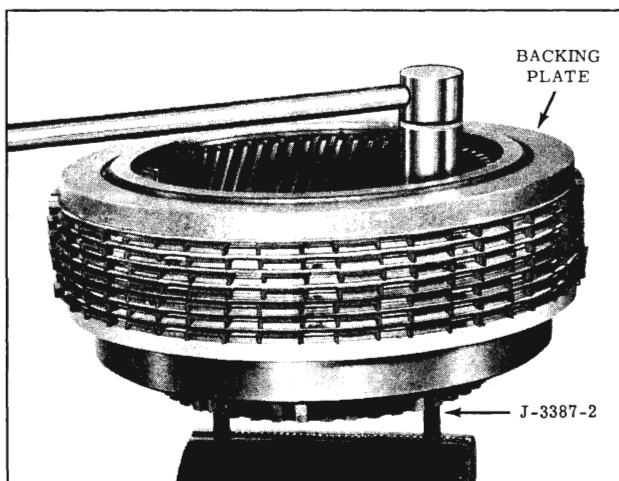

Fig. 3-75 Front Clutch Disassembly
### FRONT CLUTCH (Fig. 3-75)
3. Install front clutch assembly with studs into vise so that studs are retained by the vise jaws. (Fig. 3-75)